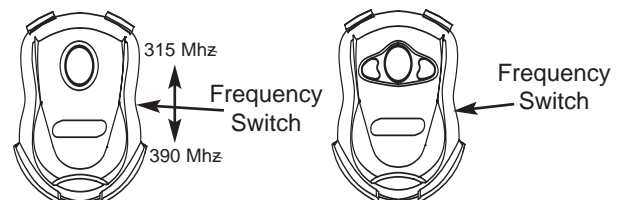

Figure 2 Genie Remote Controls
- Press Remote Control Button once within 30 seconds (Figures 2 and 3). Red Learn Indicator Light will stay lit.